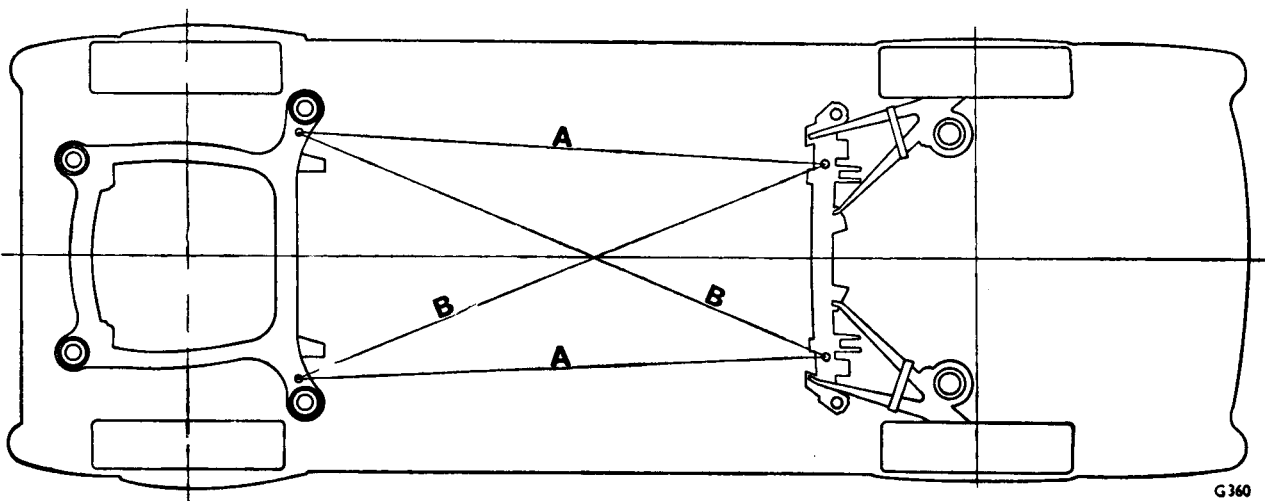

FIG. H28 METHOD OF ALIGNING SUB-FRAMES
10. When the cross-member is raised to within 0.125 in. (3.18 mm.) of its final position, align it to the front sub-frame by manoeuvring and measuring the longitudinal and diagonal distances between the front sub-frame and cross-member (see Fig. H28).